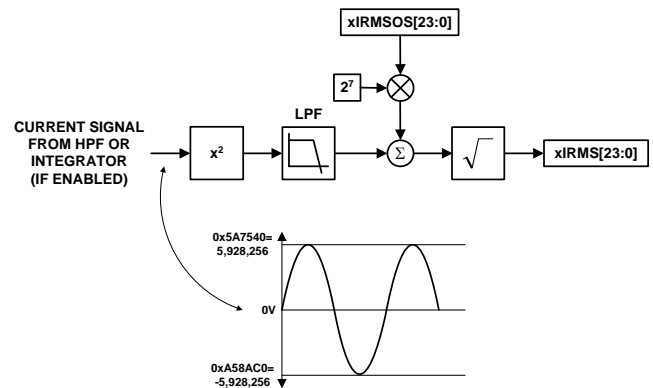

Figure 36. Current RMS Signal Processing
The expression (10) implies that for signals containing harmonics, the rms calculation contains the contribution of all harmonics, not only the fundamental. The method is to low-pass filter the square of the input signal (LPF) and take the square root of the result (see Figure 36).
Figure 36 shows the detail of the signal processing chain for the rms calculation on one of the phases of the current channel. The current channel rms value is processed from the samples used in the current channel. The current rms values are signed 24-bit values and they are stored into AIRMS[23:0], BIRMS[23:0] and CIRMS[23:0]. The update rate of the current rms measurement is 8KHz.